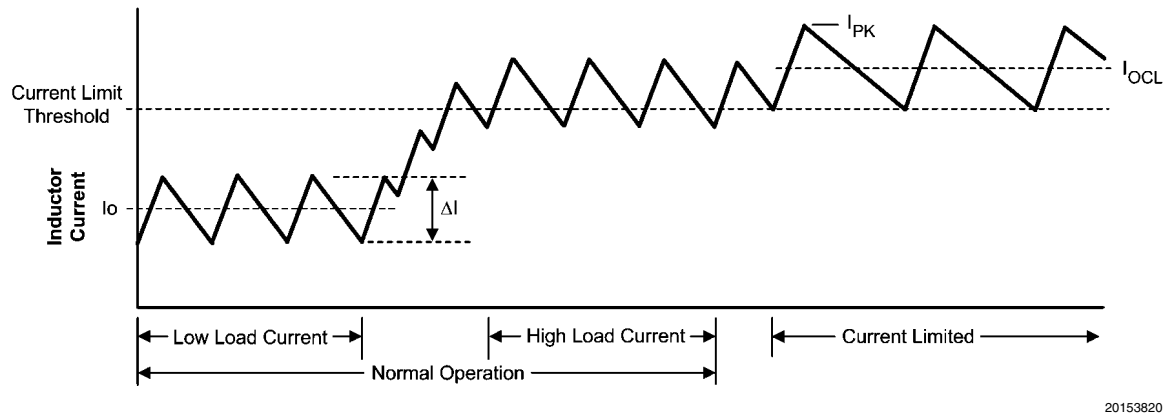

FIGURE 4. Inductor Current - Current Limit Operation
Current limit detection occurs during the off-time by monitoring the recirculating current through the internal current sense resistor ( $R_{SENSE}$ ). The detection threshold is 1.25A,  $\pm 0.25A$ . Referring to the Block Diagram, if the current into SGND during the off-time exceeds the threshold level the current limit comparator delays the start of the next on-time period. The next on-time starts when the current into SGND is below the threshold **and** the voltage at FB is below 2.5V. Figure 4 illustrates the inductor current waveform during normal operation and during current limit. The output current  $I_O$  is the average of the inductor ripple current waveform. The Low Load Current waveform illustrates continuous conduction mode operation with peak and valley inductor currents below the current limit threshold. When the load current is increased (High Load Current), the ripple waveform maintains the same amplitude and frequency since the current falls below the current limit threshold at the valley of the ripple waveform. Note the average current in the High Load Current portion of Figure 4 is above the current limit threshold. Since the current reduces below the threshold in the normal off-time each cycle, the start
of each on-time is not delayed, and the circuit's output voltage is regulated at the correct value. When the load current is further increased such that the lower peak would be above the threshold, the off-time is lengthened to allow the current to decrease to the threshold before the next on-time begins (Current Limited portion of Figure 4). Both  $V_{OUT}$  and the switching frequency are reduced as the circuit operates in a constant current mode. The load current ( $I_{OCL}$ ) is equal to the current limit threshold plus half the ripple current ( $\Delta I/2$ ). The ripple amplitude ( $\Delta I$ ) is calculated from:
This provides a minimum value for L1 - the next higher standard value (100  $\mu\text{H}$ ) will be used. To prevent saturation, and possible destructive current levels, L1 must be rated for the peak current which occurs if the current limit and maximum ripple current are reached simultaneously ( $I_{PK}$  in Figure 4). The maximum ripple amplitude is calculated by re-arranging Equation 11 using  $V_{IN(max)}$ ,  $F_{S(min)}$ , and the minimum inductor value, based on the manufacturer's tolerance. Assume, for this exercise, the inductor's tolerance is  $\pm 20\%$ .
**D1:** A Schottky diode is recommended. Ultra-fast recovery diodes are not recommended as the high speed transitions at the SW pin may inadvertently affect the IC's operation through external or internal EMI. The diode should be rated for the maximum  $V_{IN}$  (60V), the maximum load current (1A), and the peak current which occurs when current limit and maximum ripple current are reached simultaneously ( $I_{PK}$  in Figure 4), previously calculated to be 1.87A. The diode's forward voltage drop affects efficiency due to the power dissipated during the off-time. The average power dissipation in D1 is calculated from: